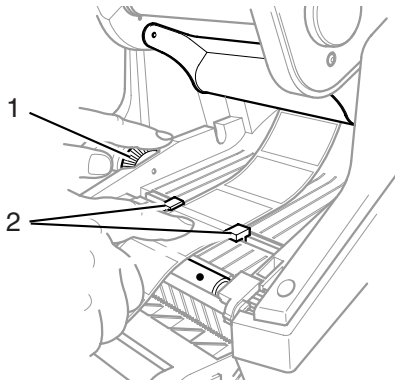

Figure 8, Alignment Guides
6. Thread the material under the ribbon carrier, under the guides (**Figure 8, 2**) and forward through the slot in the front cover.
7. Turn the green dial on the left (**Figure 8, 1**) to adjust the guides so they just snug up against the labels. Do not tighten the guides enough to crimp the labels.
2. Position the label strip between the label guides (**Figure 8, 2**) and turn the adjustment wheel (**Figure 8, 1**) to snug the guides just up against the label strip. Be careful not to tighten the guides against the label strip enough to crimp the label strip.